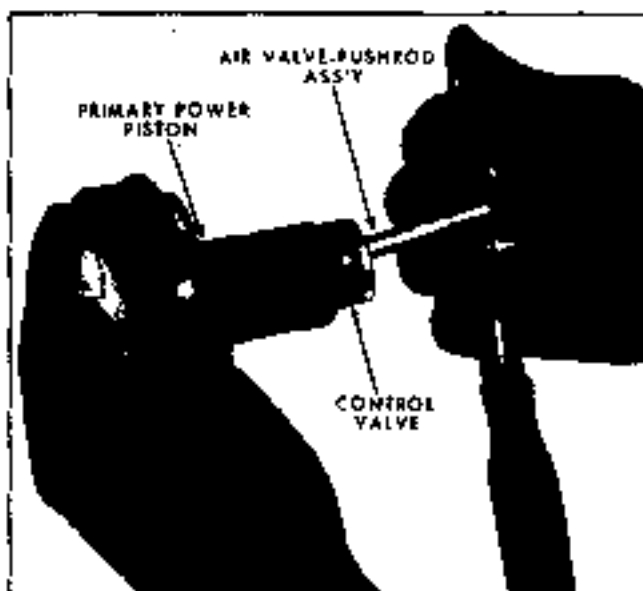

Fig. 5D-7 Removing Air Valve-Pushrod Assembly
-shanked screwdriver be inserted through the pushrod eye, and using the screwdriver as a handle, pull the air valve-pushrod assembly straight out (Fig. 5D-7).